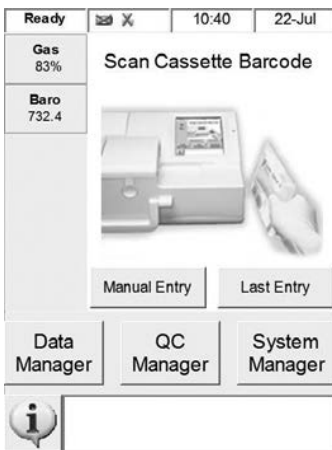

Fig. 6-28 Ready screen
- The unit will then return to the **<Ready>** screen (Fig. 6-28).